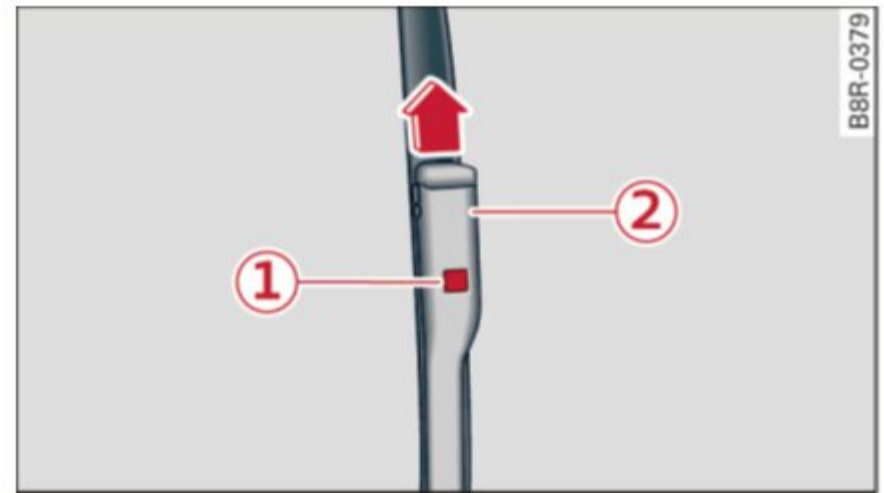

Fig. 48 Removing windshield wiper blade
- ▶ Press the locking knob ① ⇒ fig. 48 on the wiper blade. Hold the wiper blade firmly.